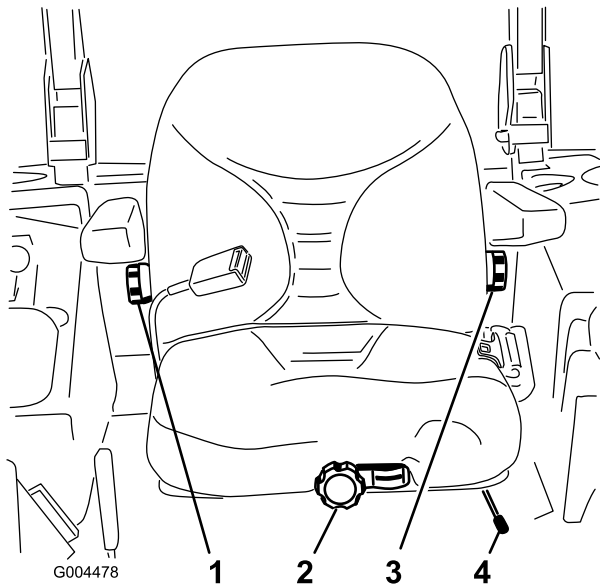

Figure 23
1. To adjust, move the lever sideways to unlock the seat (Figure 23).
Without sitting on the seat, turn the knob in front either direction to provide the best comfort (Figure 23).
To adjust it, turn the knob, under the right-side arm rest, in either direction to provide the best comfort (Figure 23).
To adjust it, turn the knob, under the left-side arm rest, in either direction to provide the best comfort (Figure 23).